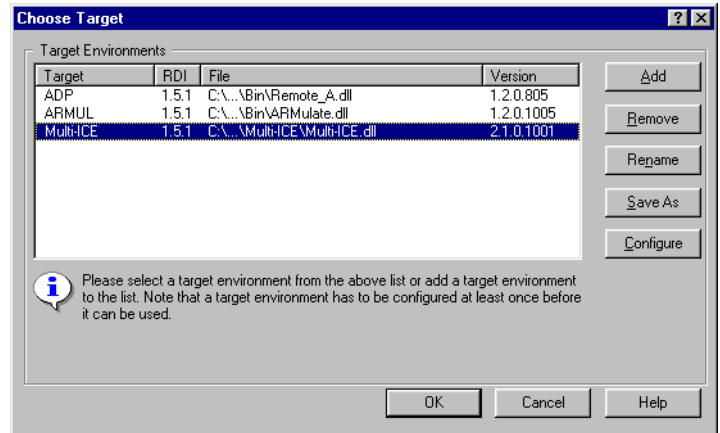

Figure B-20 Debugger Configuration dialog box
2. Select **Options** → **Configure Target** in AXD. This displays the target configuration dialog box shown in Figure B-20 on page B-29.
The list of targets and the version numbers shown in Target Environments may vary from those shown in Figure B-20 on page B-29.